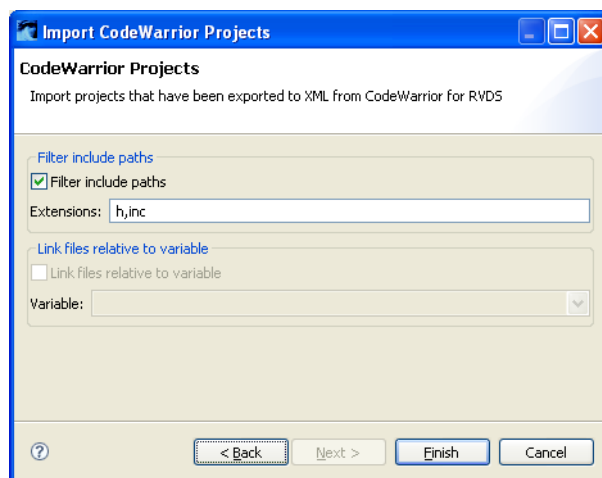

Figure 3-13 Filter include paths and path variables
8. Select the **Filter include paths** option to minimize the include paths option on the command-line, see Figure 3-13 on page 3-12. Only paths containing files ending with the specified extensions are added to the command-line options. Extensions must be given as a comma-separated list. For example: *h,inc*.
9. The location of linked resources can be specified relative to a path variable, see Figure 3-13. This enables you to share projects containing linked resources without having to mirror the same file structure. If you have not specified any path variables, the **Link files relative to variable** option is disabled. Click on **Finish** to create your new project.